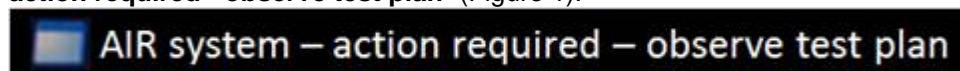

Figure 1. Message on ODIS tester.
- During reset of the service reminder, the following message appears on the ODIS tester: “**AIR system - action required - observe test plan**” (Figure 1).